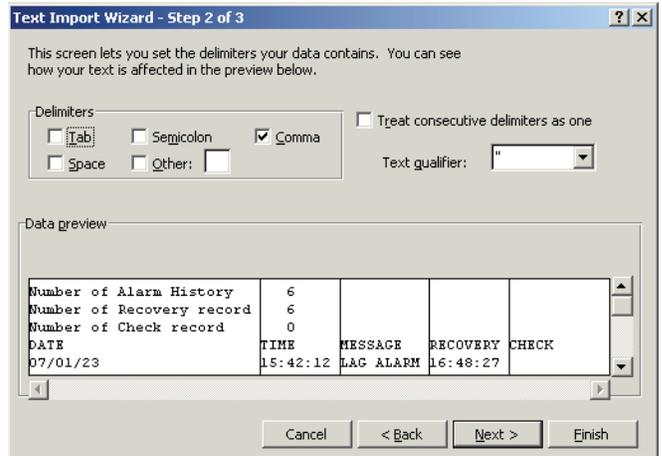

Fig E-35. Text Import Wizard - Step 2 of 3 Screen
Step 2. In the “Delimiter” section, un-select “Tab” and select “Comma” and then select “Next” in the lower right hand corner (Fig E-35).